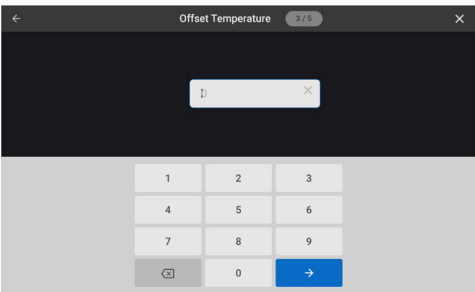

Figure 21: Input Idle Offset
- 5. Input the “idle” offset temperature and touch the blue arrow button to continue (Figure 21).